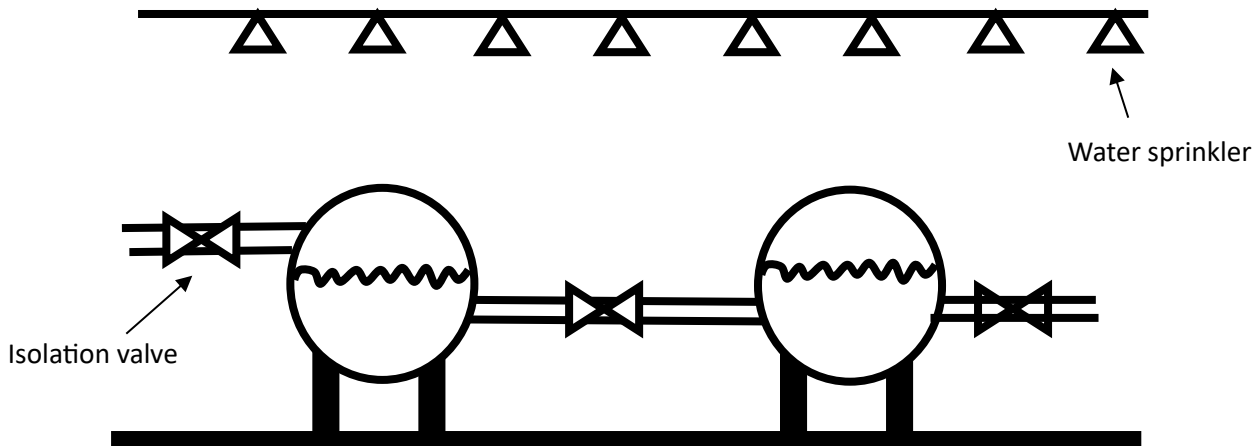

Figure Q2
It is proposed to build chemical plant processing butane. Part of the processing plant consists of two high-pressure storage vessels with a capacity of several tonnes as shown below in Figure Q2.
c) It is proposed to use a water sprinkler system linked to a fire detection system to extinguish any fire that might occur, see Figure Q2. Is this a good strategy for fire protection? Give reasons for your answers.